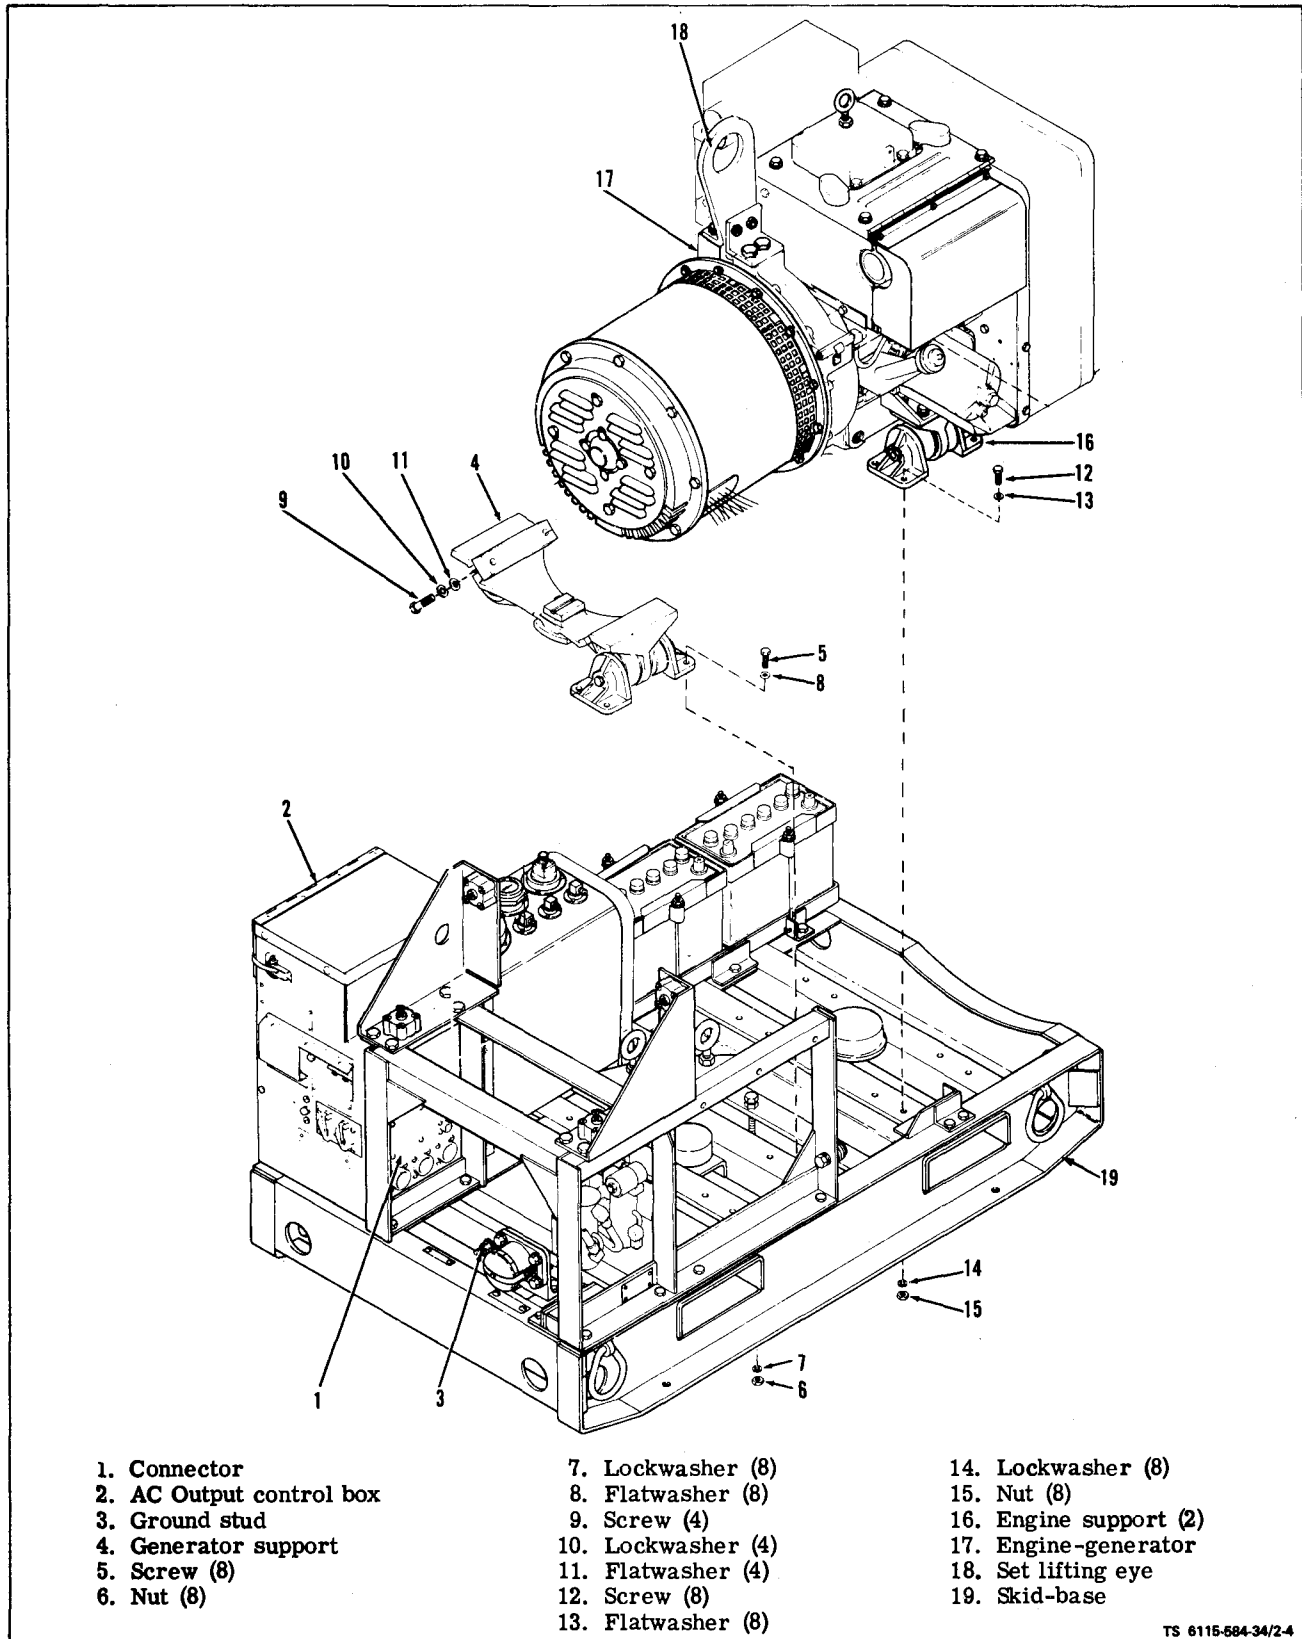

Figure 2-4. Lifting Engine and Generator Assembly.
(3) Loosen generator mounting screws (9, figure 2-4).
(4) Mount generator to engine as follows:
(5) Tighten generator mounting screws (9, figure 2-4).
(6) Attach engine supports (16, figure 2-4) to skid-base (19) with screws (12), flatwashers (13), lockwashers (14) and nuts (15).
(7) Perform step (4) of paragraph 2-9, b above.
(8) On ASK equipped generators, refer to Operator and Organizational Maintenance Manual and replace cover assembly.
Engine lifting bracket is for lifting engine alone. If engine and generator assembly are lifted as one unit, use set lifting eye (18, figure 2-4).
(1) Disconnect three wiring assemblies from connectors (1, figure 2-4) at ac output cubicle (2). Disconnect generator ground at ground stud (3).
(2) Disconnect four screws (5), lockwashers (7), and flatwashers (8) attaching generator support (4) to generator and lift engine and generator assembly (17) free of skid-base (19)
(3) Properly support engine and generator assembly and disconnect generator from engine assembly as given in paragraph 2-9.
b. Install. Install engine and generator assembly as described in paragraph 2-9, b. Connect three wiring assemblies to connectors (1, figure 2-4) at ac output cubicle (2). Connect generator ground at ground stud (3). On ASK equipped generators, refer to Operator and Organizational Maintenance Manual and replace cover assembly.